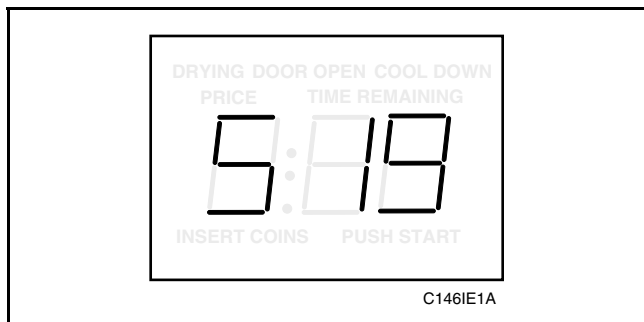

Figure 46
- While pressing and holding the HIGH TEMP pad with one hand, press the MED TEMP pad with the other hand. Programmable option number 1, (Audio Signal “SIg”), will appear in the VFD, *Figure 46*.